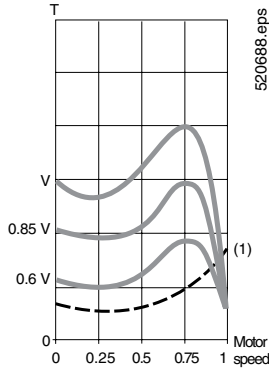

Figure 2
- Figure 2 shows the torque/speed characteristic of a squirrel cage motor in relation to the supply voltage. The torque varies like the square of the voltage at a fixed frequency. The gradual increase in the voltage prevents the instantaneous current peak on power-up.
(1) Load torque